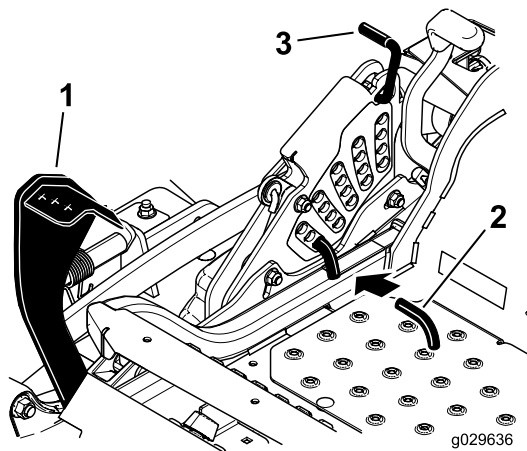

Figure 26
2. Push on the deck lift pedal with your foot, and raise the mower deck to the transport position (also the 140 mm (5-1/2 inch) cutting-height position); refer to Figure 26.
3. To adjust, rotate the pin 90 degrees and remove the pin from the height-of-cut bracket (Figure 26).
4. Select a hole in the height-of-cut bracket corresponding to the height of cut desired, and insert the pin (Figure 26).